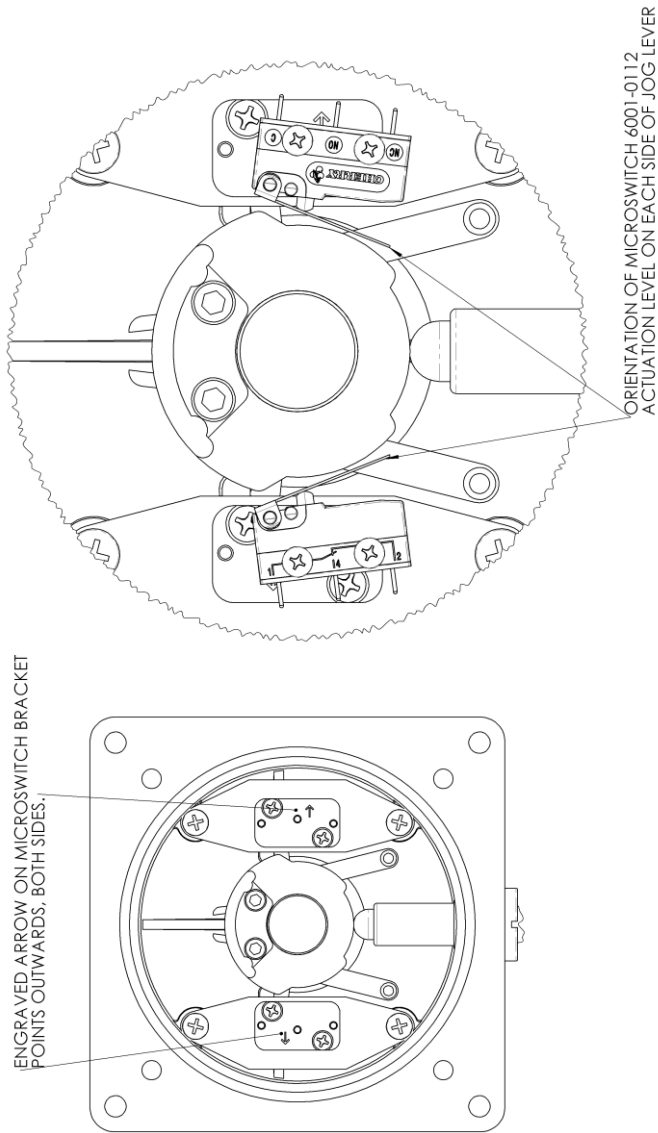

Figure 13: Placement of microswitch and mounting bracket inside jog lever housing
9. Refer to Figure 13 and note the engraved arrow on the microswitch bracket ① is facing outwards on both sides of jog lever.
10. Apply Loctite 242 or 243 to X2 Flat head screws ④.
11. Install bracket ① with screws ④ into the jog unit ensuring the engraved arrow is correctly orientated.
12. Refer to Figure 13 and note the orientation of the microswitch ② for the side of the jog unit that the microswitch is being replaced on.
13. Place the first microswitch ② on top of the bracket ① orientating the microswitch so the actuation lever is as shown in Figure 13.
14. Place X2 spacer washers ⑤ on top of the first microswitch lining up with the screw holes.
15. Place the second microswitch ② on top of the spacer washers ensuring the same orientation as the first microswitch.
16. Apply Loctite 242 and 243 to X2 pan head screws ③.
17. Use X2 screws ③ and tighten to secure the microswitches ②, ensure the screws go through the holes on both microswitches ② and the spacer washers ⑤.